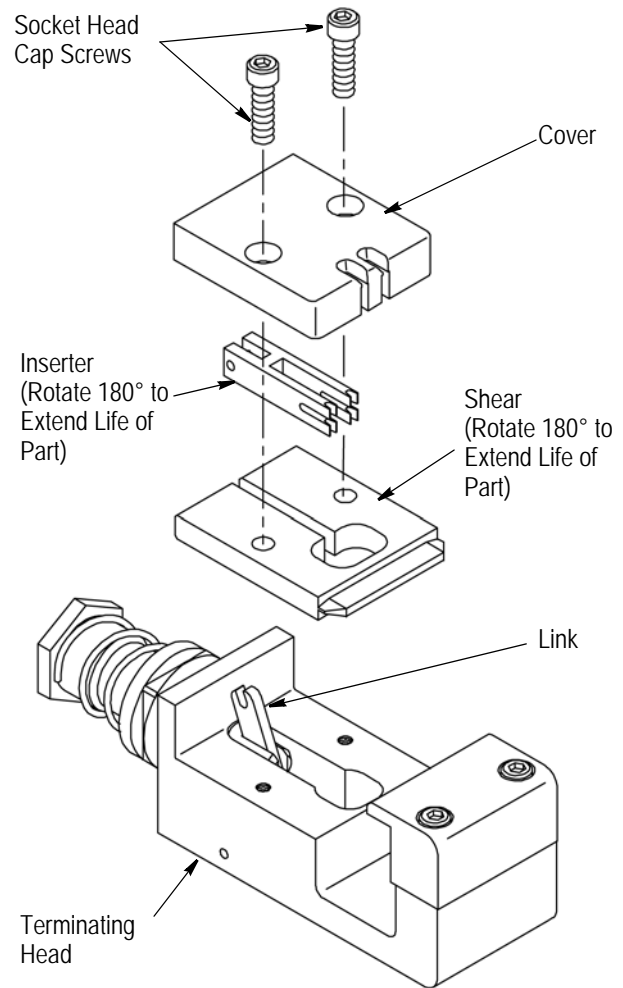

Figure 6
Shearing occurs along the edge where the inserter rides against the shear. When the operator of the tool starts to notice wire ends that are not cleanly cut, or if excessive force becomes necessary to shear the wires, it is time to change or replace the two components that do the shearing. Refer to Figure 6 and proceed as follows:
1. To change the position of the shear, remove the cover of the terminating head by loosening the two 4-40 socket head cap screws which hold the head in place. Carefully, lift off the cover. See Figure 6.